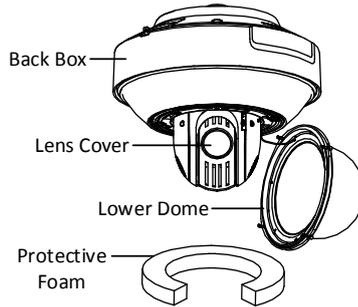

Figure 1-16 Remove the Lower Camera
1. Loosen the two lock screws on the both side of the camera. Pull the lower camera to separate it from the back box as shown in Figure 1-16.